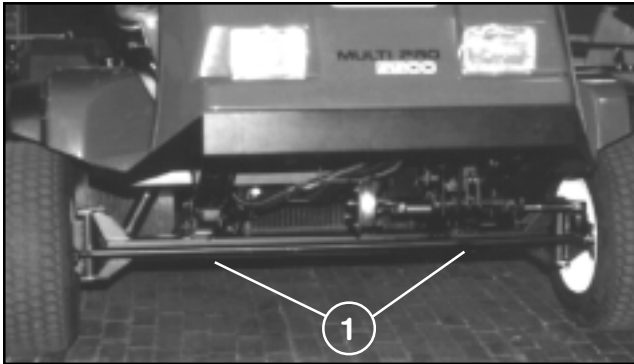

FIG. 29
3. The jacking points at the front of the vehicle are under the front axle directly beneath the leaf springs. (FIG. 29)